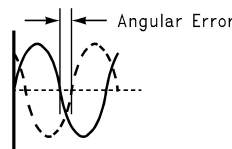

Figure 23. Angular Errors Between the Two Input Signals Will Reduce the Output Level or Cause Distortion
- dev is the angular difference in degrees between the two signals having a 180° relative phase relationship to each other (see Figure 23) (5)